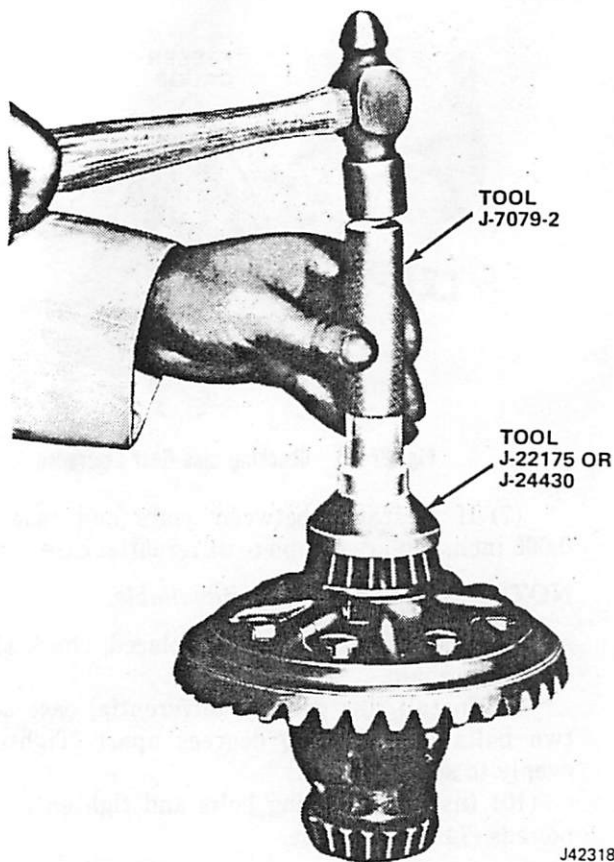

Fig. 2F-57 Differential Bearing Installation
(10) Add additional 0.015 inch (0.38 mm) thickness shim to shim pack to be installed on tooth side of ring gear.
(11) Remove differential bearings. Refer to removal procedures outlined in Differential Assembly.
(12) Install shim packs on appropriate sides of differential case and reinstall differential bearings. On Model 30 and 44 axles, install bearings using Tools J-7079-2 and J-22175. On Model 60 axles, install bearings using Tool J-24430 (fig. 2F-57).